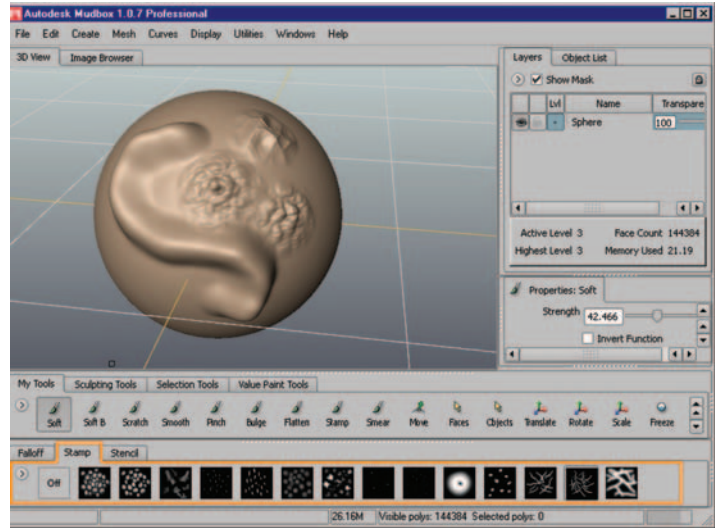

Figure 11.32 Mesh after applying a stroke with a Stamp image selected.
7. Using the Stamp options will create texture when you sculpt. At the bottom of the screen, click on the Stamp tab and activate one of the Stamp images by clicking on it. Paint a stroke on the mesh to see the results. Figure 11.32 shows the result of using Stamp when sculpting.